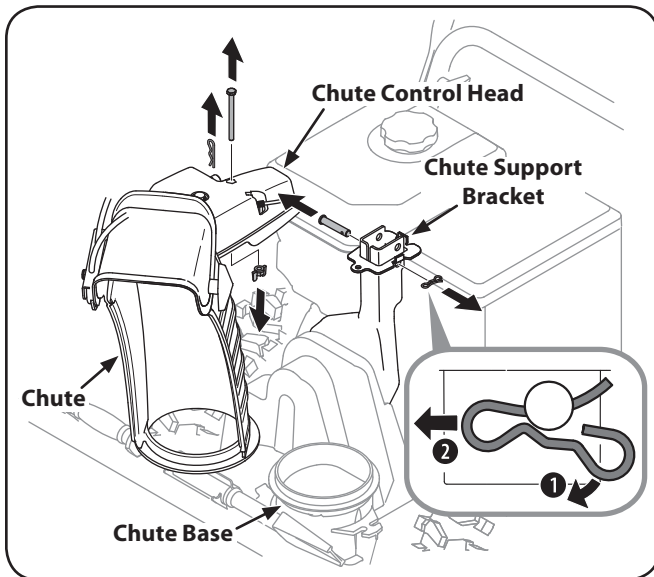

Figure 3-10
1. Remove cotter pin, wing nut and hex screw from chute control head. Remove clevis pin and bow-tie cotter pin from chute support bracket. See Figure 3-10.
- Finish securing chute control head to chute support bracket with wing nut, clevis pin, and bow-tie cotter pin removed in step 1. See Figure 3-10.